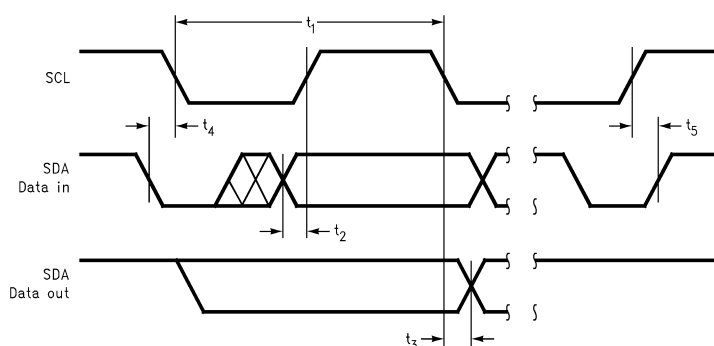

Figure 32. I2C Timing Diagram
- (1) "Absolute Maximum Ratings" indicate limits beyond which damage to the device may occur, including inoperability and degradation of device reliability and/or performance. Functional operation of the device and/or non-degradation at the *Absolute Maximum Ratings* or other conditions beyond those indicated in the *Recommended Operating Conditions* is not implied. The *Recommended Operating Conditions* indicate conditions at which the device is functional and the device should not be operated beyond such conditions. All voltages are measured with respect to the ground pin, unless otherwise specified.
- (2) The *Electrical Characteristics* tables list ensured specifications under the listed *Recommended Operating Conditions* except as otherwise modified or specified by the *Electrical Characteristics Conditions* and/or Notes. Typical specifications are estimations only and are not ensured.
- (3) Human body model, applicable std. JESD22-A114C.
- (4) Datasheet min/max specification limits are ensured by test or statistical analysis.
- (5) Refer to the I2C timing diagram, Figure 32.
- (3) Typical values represent most likely parametric norms at  $T_A = +25^\circ C$ , and at the *Recommended Operation Conditions* at the time of product characterization and are not ensured.
The LM49200 is controlled through an I2C compatible serial interface that consists of a serial data line (SDA) and a serial clock (SCL). The clock line is uni-directional. The data line is bi-directional (open drain). The LM49200 and the master can communicate at clock rates up to 400kHz. Figure 32 shows the I2C interface timing diagram. Data on the SDA line must be stable during the HIGH period of SCL. The LM49200 is a transmit/receive slave-only device, reliant upon the master to generate the SCL signal. Each transmission sequence is framed by a START condition and a STOP condition (Figure 33). Each data word, device address and data, transmitted over the bus is 8 bits long and is always followed by an acknowledge pulse (Figure 34). The LM49200 device address is 11111000.